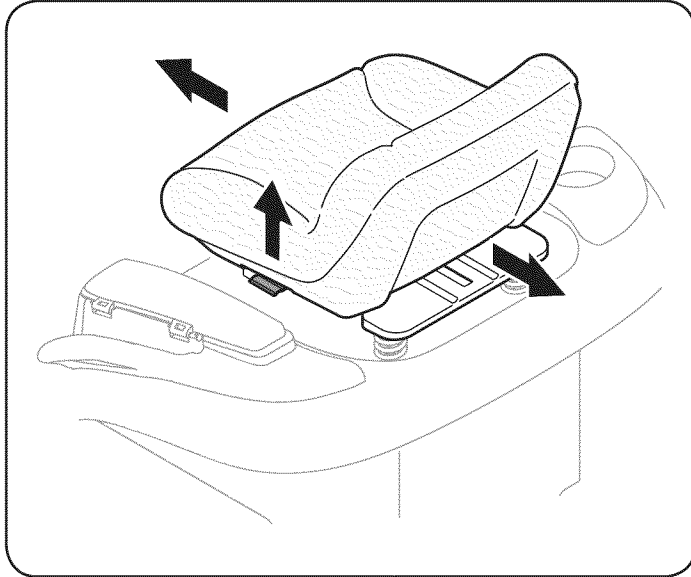

Figure 8
To adjust the position of the seat, pull up and hold the seat adjustment lever. Slide the seat forward or rearward to the desired position; then release the adjustment lever. Make sure seat is locked into position before operating the riding mower. See Figure 8.
4. Remove the oil filler cap/dipstick. If the level is low, slowly add oil until oil level registers between FULL and ADD, Figure 8.